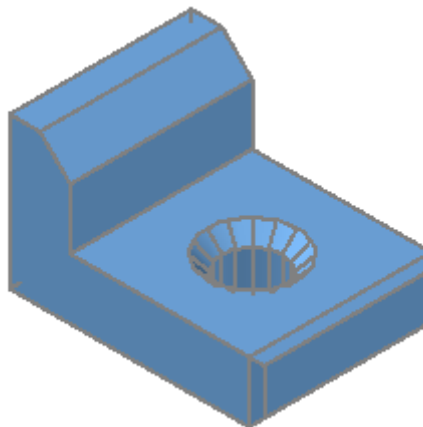

Figure Step 15
Step 15 Move the original solid back together using osnap to locate it exactly. Use the UNION command to join the two halves into one solid model. Using the Properties window, check to ensure that you only have one solid object. (Figure Step 15)